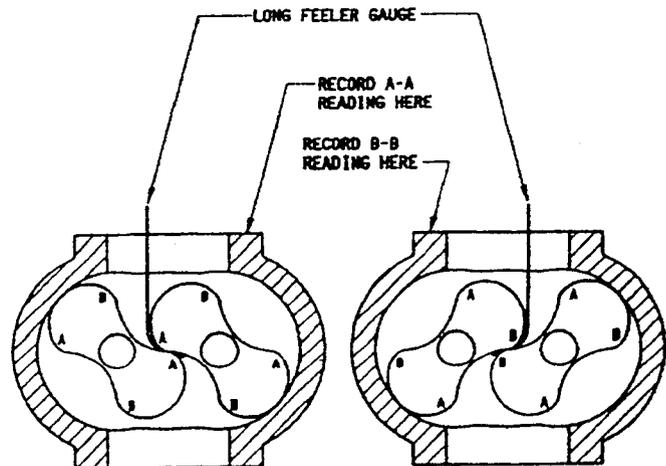

Figure A5. Checking Gear End Clearances
Set dowel pins [9] in housing and position housing over the rotors and fasten with cap screws [15]. Check housing to rotor clearance. (Refer to Figure A5) A depth mic can be used.
Using feeler gauges take interlobe readings and record on each side of housing as indicated in Figure A5 below. By removing or adding shim behind the helical gear, it rotates as it is moved in or out and the driven rotor turns with it, thus changing the clearance between rotor lobes.
**EXAMPLE:** Referring to Figure A5 below, check the clearance at AA (right hand reading) and BB (left hand reading). If AA reading is .009" (.23 mm) and BB reading .003" (.08 mm) by removing .006" (.15 mm) shims. the readings will change one half the amount removed or .003" (.08 mm). AA should then read .006" (.15 mm) and BB should read .006" (.15 mm). The final reading should be within .002" (.05 mm) of each other.